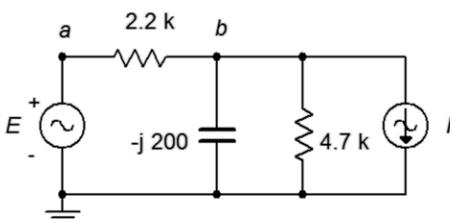

Figure 6.12
23. Use mesh analysis to find the current through the  $2.2\text{ k}\Omega$  resistor in the circuit in Figure 6.12.  $E = 3.3\angle 0^\circ$ ,  $I = 2.1\text{E}-3\angle 0^\circ$ .
24. Given the circuit in Figure 6.12, use mesh analysis to determine  $v_b$ .  $E = 10\angle 0^\circ$ ,  $I = 30\text{E}-3\angle 90^\circ$ .